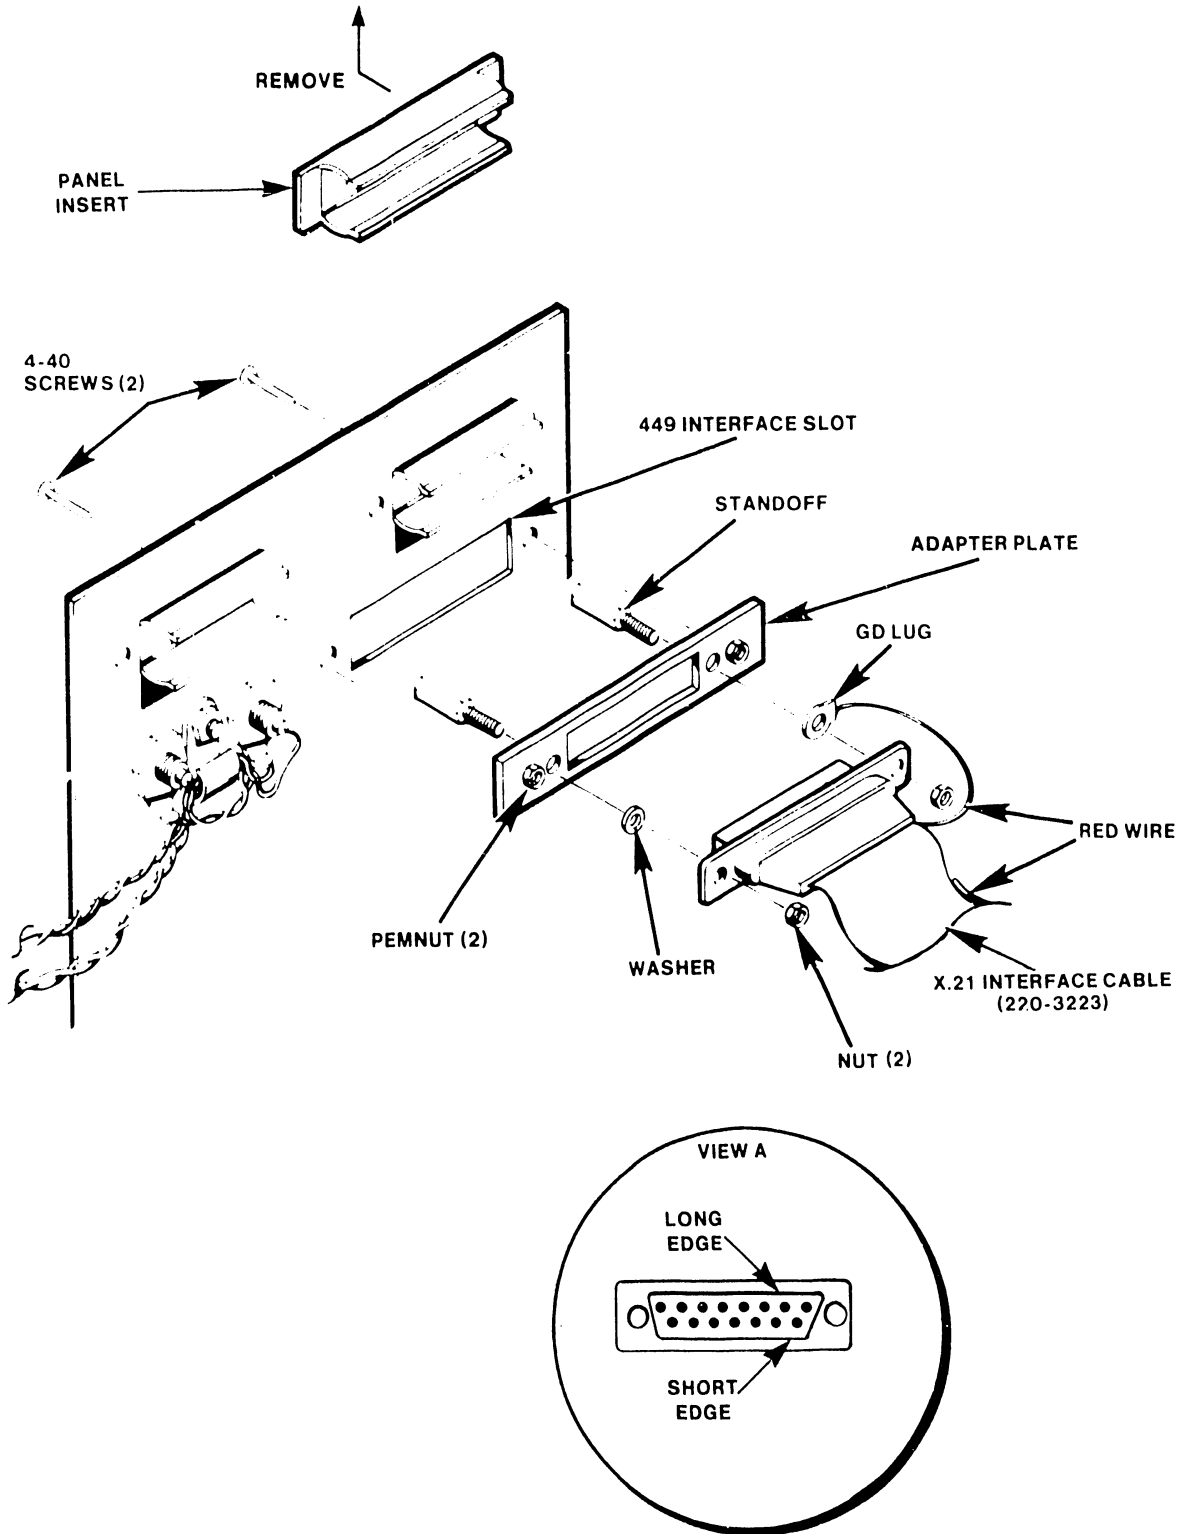

Figure 4-10 X.21 Cable To Panel Installation (Internal side)
1. Position the TC rear panel as shown in Figure 4-10 (internal side of rear panel).
3. Fit the X.21 cable "D" connector to the adapter plate. Make certain that the long edge of the "D" connector is on top (Figure 4-10).
4. Insert two threaded standoffs (P/N 478-0791) through the X.21 adapter plate (P/N 452-0274) and "D" connector screw holes. Ensure pemnuts on adapter plate are facing as shown in Figure 4-10.
5. Install the red wire ground lug on one standoff and a washer on the other standoff (Figure 4-10).